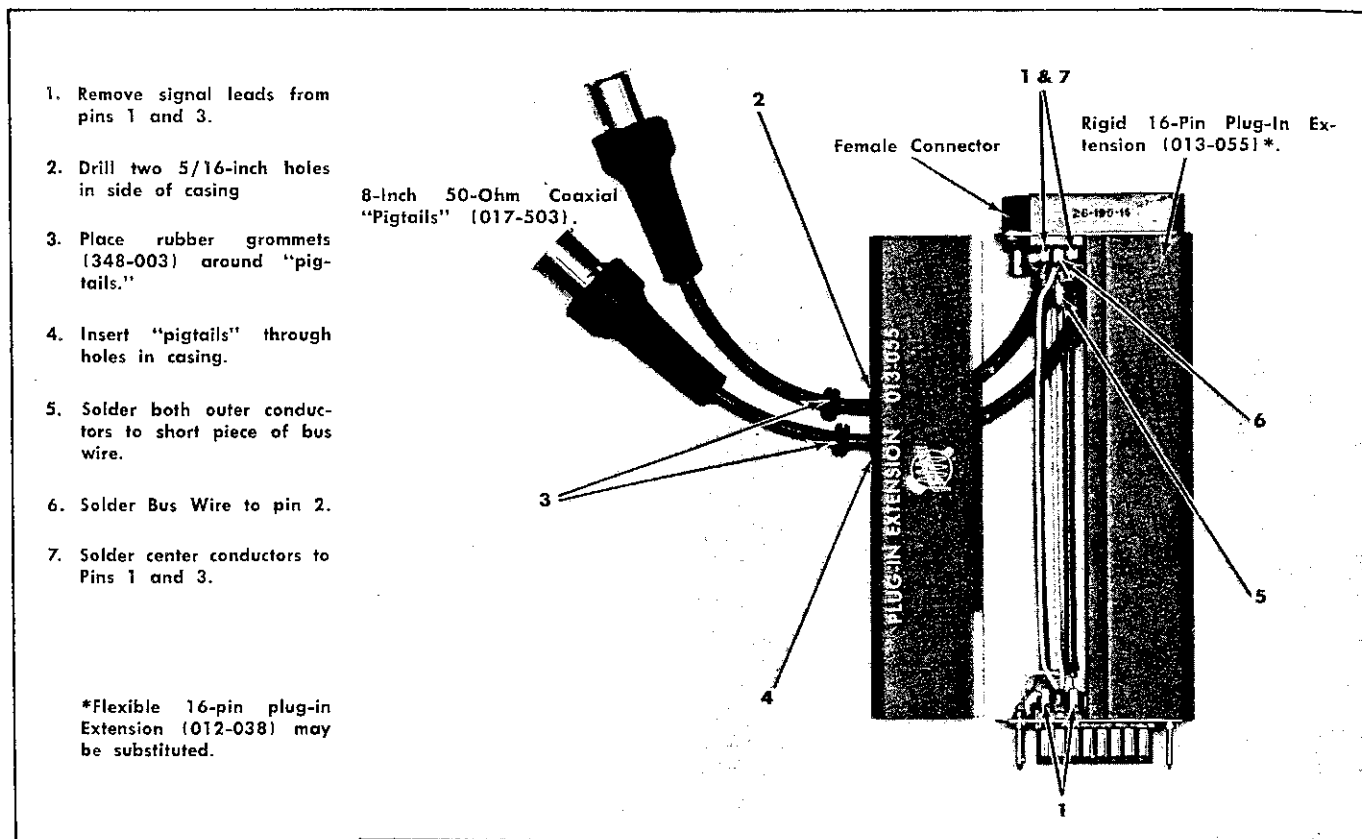

Fig. 5-1. Construction of special extender for checking pulse risetime. Tektronix part numbers are given in parentheses.
10. 16-pin plug-in extension, specially modified for checking Pulse Generator output. Construction of the extension is illustrated in Fig. 5-1.